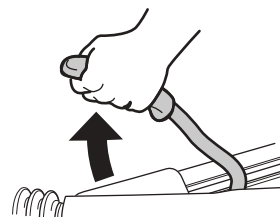

Fig. 9
- ▶ Apply the parking brake (Fig. 9) and / or secure the tyres with wheel chocks.